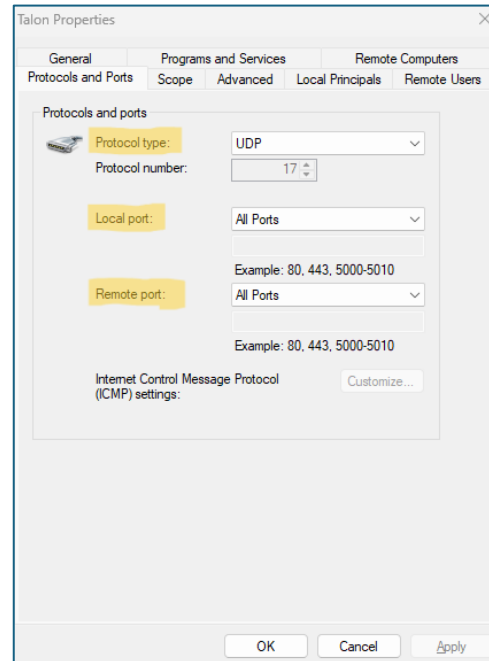

Figure 52 Talon firewall rule configured to use the UDP protocol.
- ii. Verify that the protocol is set to UDP (Figure 52) and that ports 1365–1367 are allowed. If the selected entry uses TCP, close the settings window and check the next Talon entry instead.